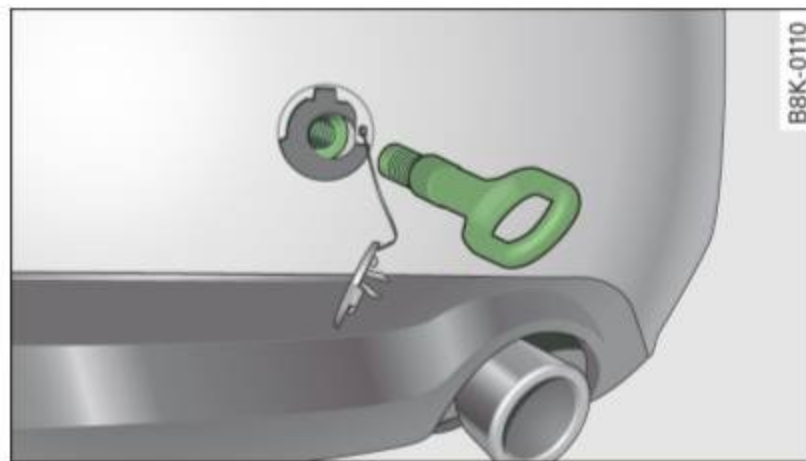

Fig. 243 Rear bumper: Screwing in towing loop
- Press the cover in by applying short strong pressure to the bottom part to release it from the bumper ⇒ *fig. 243*.